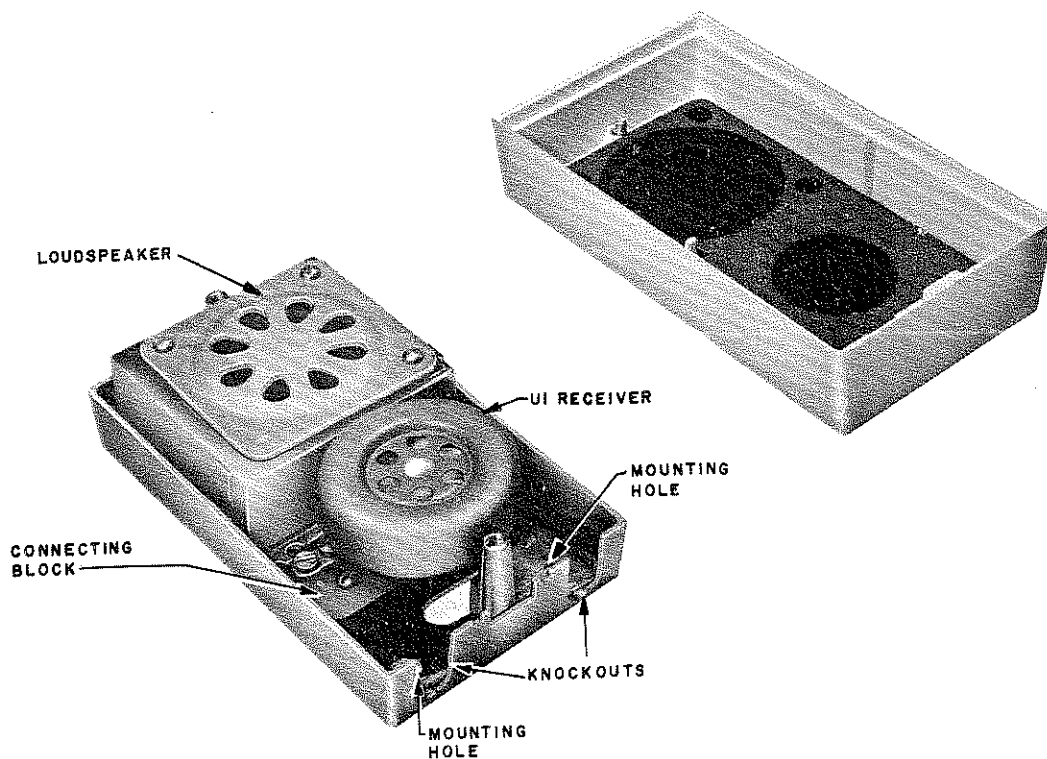

Fig. 11 — 730AW Receiver
6.06 The 730AW receiver (door-answering), see Fig. 11, is mounted on the door casing or outside wall at a convenient height for microphone pickup and out of reach of children. If this location is not desirable, the speaker may be mounted overhead just above the door. Four mounting holes are provided in the base similar to those in the 759AW loudspeaker. Wiring may enter through two holes provided in the base or through the end of the base by removing the knockouts. A backboard is not required for mounting. The 730AW receiver is weatherproof. Additional weather protection is not required. Cable pair is run directly to U1 receiver unit and connected to screw terminals on the bottom of the unit.